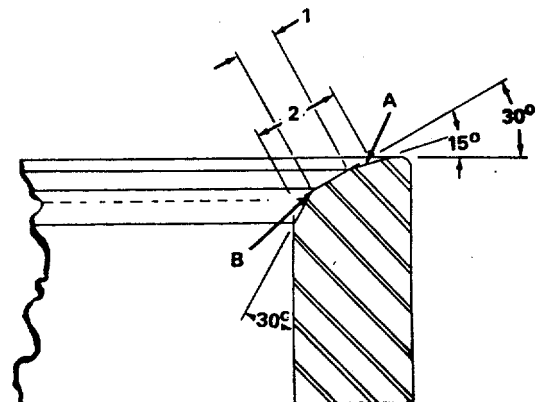

Figure 13-44. Valve Seat Insert, Cross Sections
- (21) Cut counterbore 0.006 to 0.010 inch (0.15 to 0.25 mm) deeper than insert thickness to permit peening of head to hold insert. It is important to allow cutter to dwell for several revolutions upon reaching proper depth in order to ensure a perfectly flat surface at the bottom for the insert to seat on.
- (22) Install valve seat insert andpeen around insert at least five places with a 1/4 inch (6.35 mm) diameter round end punch.
- (23) After checking condition of grinding equipment, grind valve seats holding seating motor as nearly vertical as possible.
- (24) Check valve seat which should be 1/16 to 1/8 inch (0.159 to 3.17 mm).
- (a) If seating area (2, figure 13-44) is wider than 1/8 inch (3.175 mm) maximum, stock can be removed from points "A" and "B" with specially dressed valve seat grinder stones.